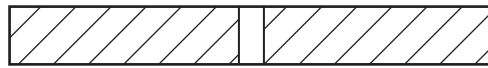

**Fig. 2**
- 6 Name the type of hinge shown in Fig. 2.